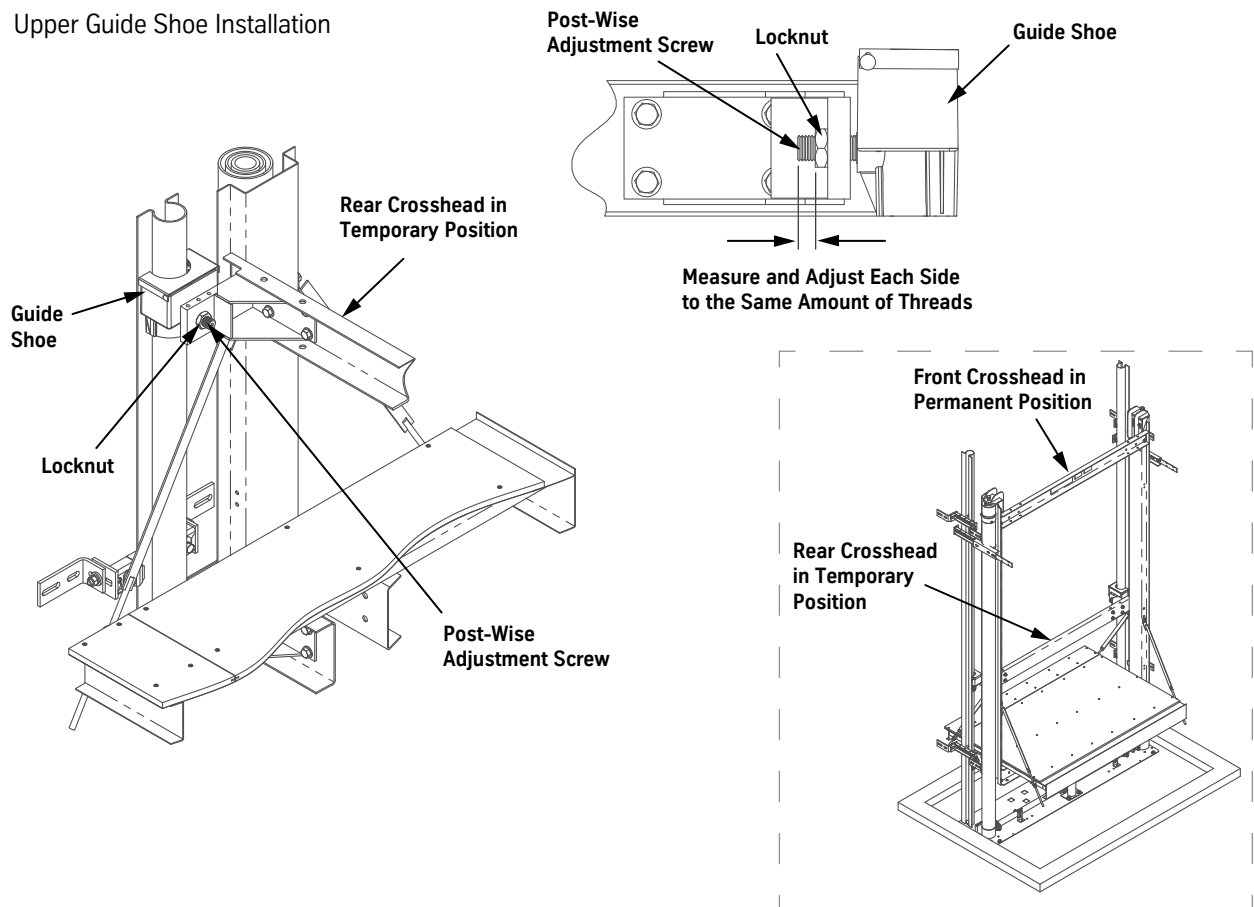

Figure 44 - Crosshead Installation
1. Fasten the two upper guide shoes to the shoe mount bracket on the rear crosshead channel. See Figure 44 for all steps in this procedure.